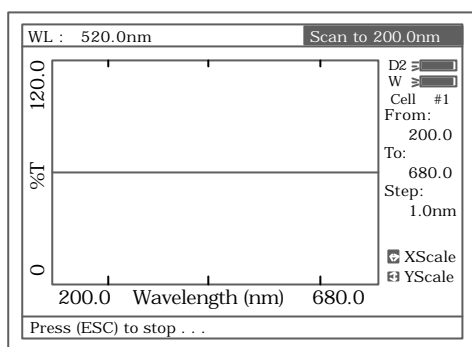

Fig 44
3. Push the blank cuvette into the light path, press **【0Abs/100%T】** to scan the base line (Fig 44). Press the key **【ESC/STOP】** to stop